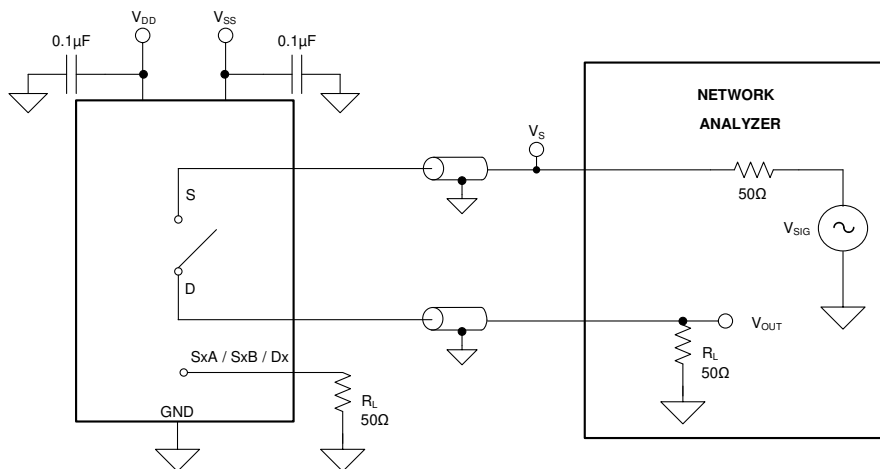

图 23. Off Isolation Measurement Setup
Off isolation is defined as the ratio of the signal at the drain pin (D) of the device when a signal is applied to the source pin (Sx) of an off-channel. 图 23 shows the setup used to measure, and the equation used to calculate off isolation.